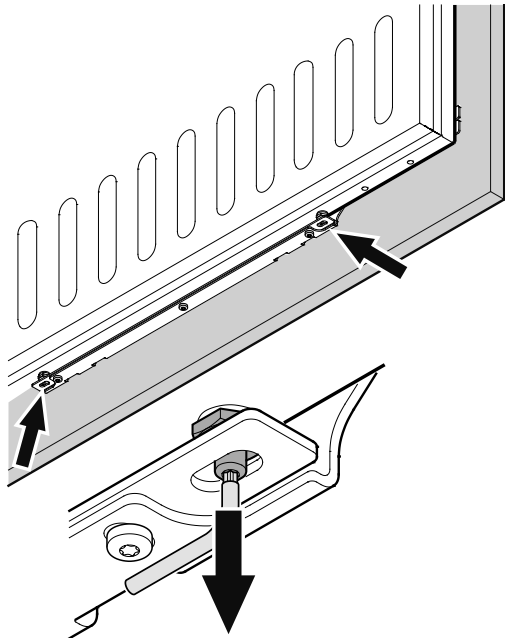

Figure 30
8. Turn the adjusting bolts (bottom refrigerator door) until they make contact with the attachment bracket (Figure 30).